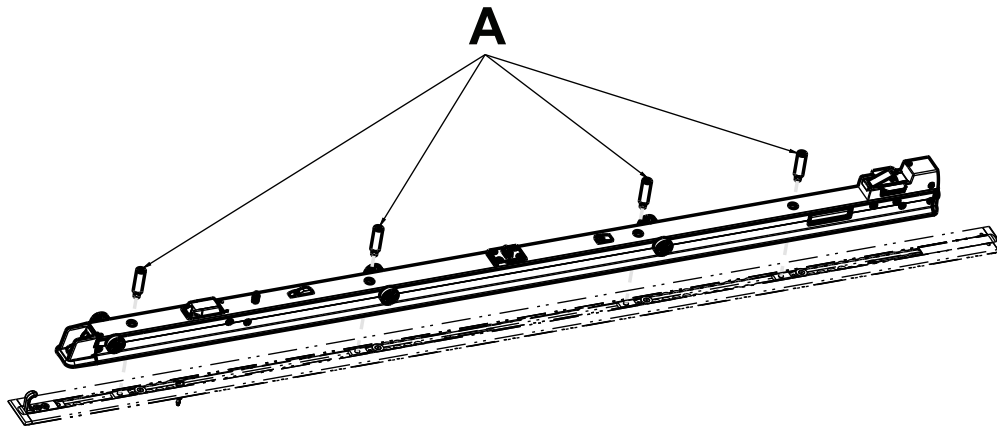

Figure 39 – Remove the anchor mounting posts
3. Using a 3/8" hex driver, remove the four anchor mounting posts (A) that secure the anchor to the floor plate (Figure 39).